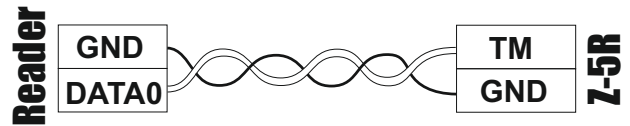

Figure 3.Connecting reader via UTP cable CAT5e
- To operate at the top of the specified line distance to controller, please use a UTP cable CAT5e. One wire of the twisted pair should be connected to GND, another to D0. (See Figure 3).